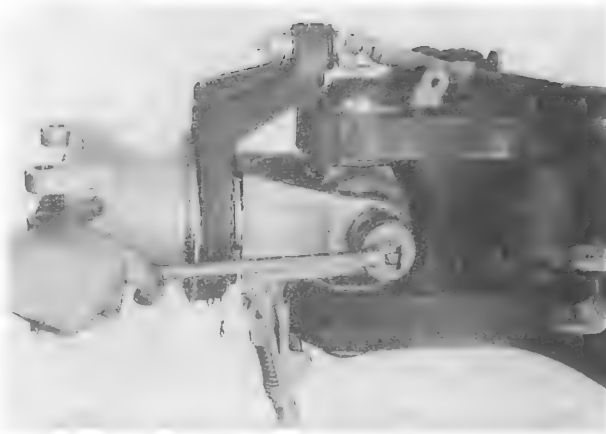

Figure 5-15. Removing Lock Nut from Horizontal Pin
c. Remove lock nut (13, figure 5-6) from horizontal pin (15) using wrench, part No. S1670-10324-3. (See figure 5-15.) Remove lockwasher (14, figure 5-6).
d. Remove lock (16).